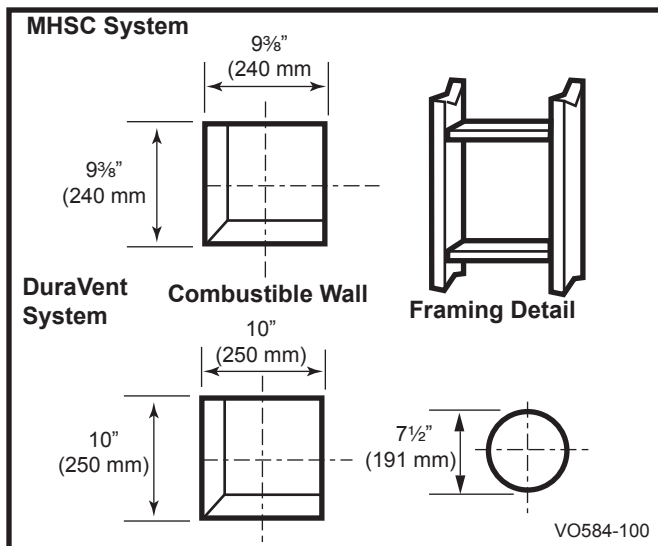

Fig. 22 Locate vent opening.
1. Locate the vent opening on the wall. Refer to Figure 5, Page 7, to determine the opening centerline. It may be necessary to first position the stove and measure to find the hole location. Depending on whether the wall is made of combustible materials, cut the opening to the size shown in Figure 22. Combustible wall openings must be framed as shown in Figure 22.